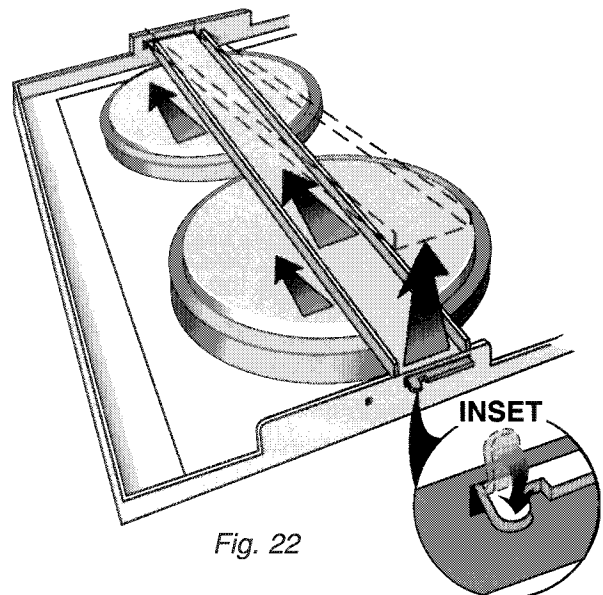

Fig. 22
3. At the front of the cooktop, bend the small tab securing the burner mounting bracket to the cooktop. (INSET - Fig. 22)
4. Slide the mounting bracket toward the rear of the cooktop to disengage the large tab from the slot in the cooktop frame. (Fig. 22) The mounting bracket can now be removed.